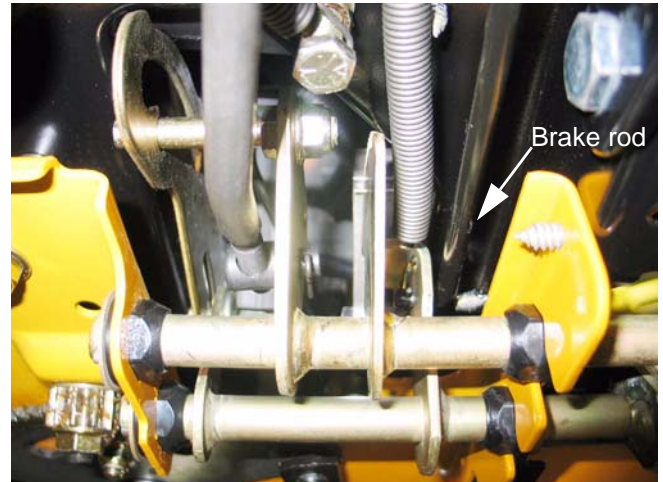

Figure 29.8
- 29.8. Disconnect the front of the brake rod from the brake pedal shaft by removing the cotter pin, and pulling the "L" at the forward end of the rod out of the hole in the brake pedal shaft. See Figure 29.8.